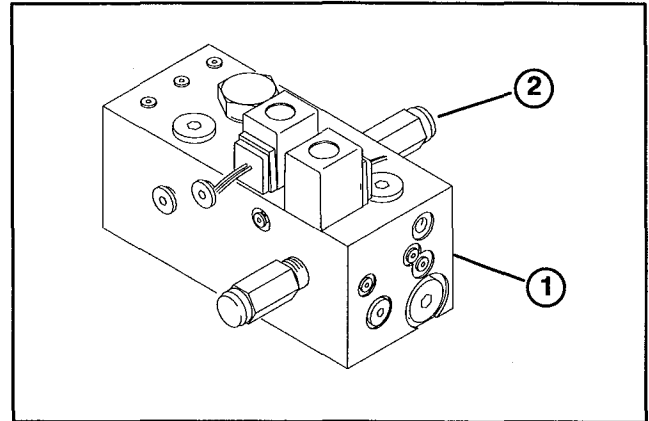

Figure 9
(Fig. 9)
1. On rear side of manifold, remove cap from end of relief cartridge (Fig. 9).